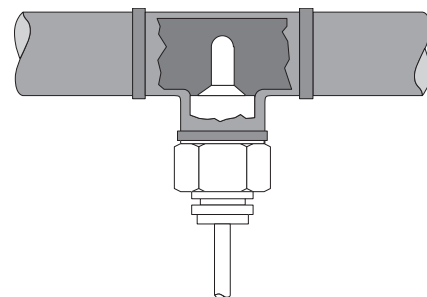

Fig. 2b: Installation from below
- If you cannot avoid air pockets in the pipeline, the function of the flow monitor is guaranteed when installed from below in the pipeline if the probe is still completely in the medium (Fig. 2b).